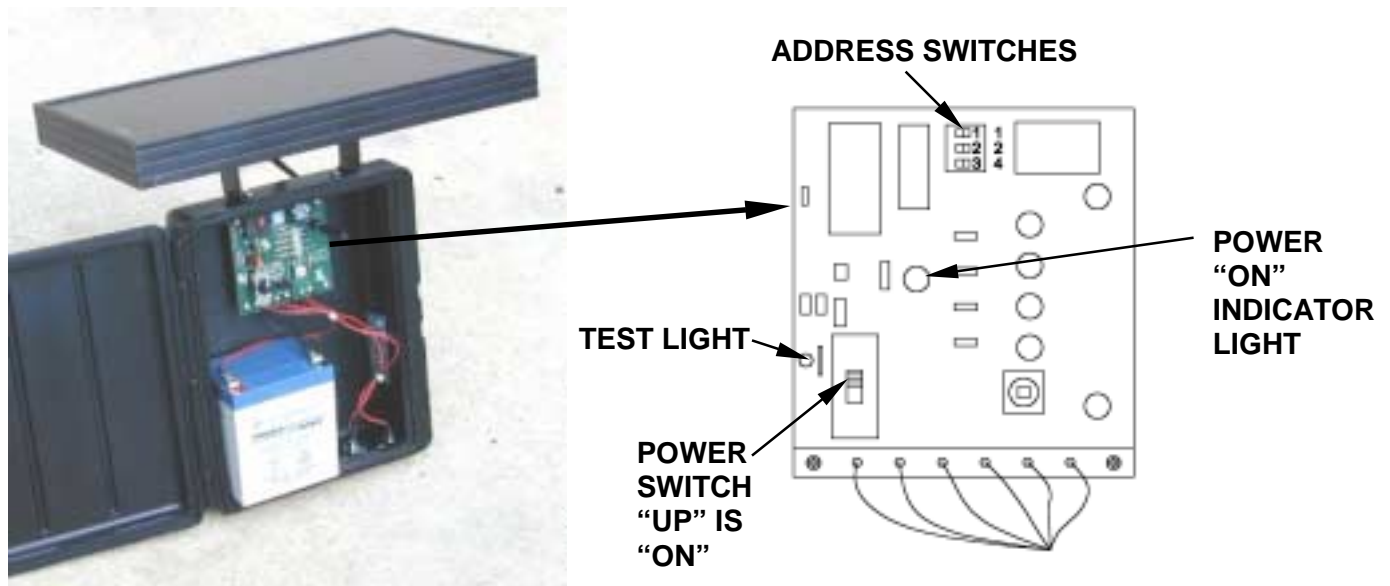

Figure 2-2. Setting Receiver for Communication Test
1. Refer to figure 2-2. Open the receiver control box. Observe and record which address switches are set to the left and which are set to the right then, set all three address switches to the right side.